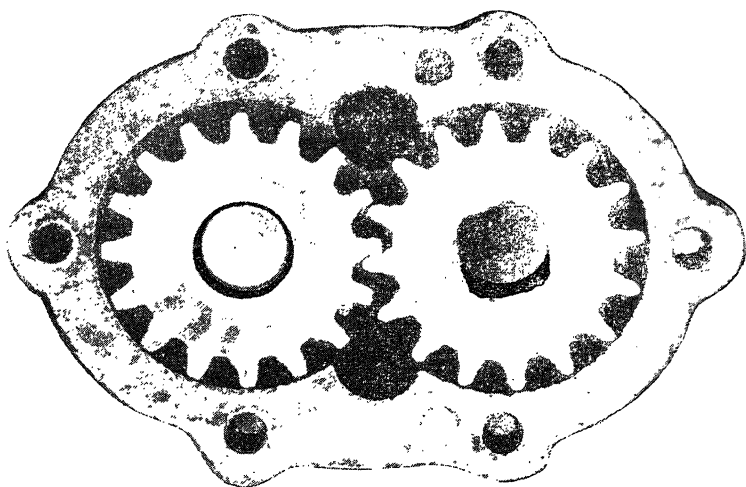

Fig. 27. Photograph of Badly Worn Set of Gears in a Gear Pump
**Worn Oil-Pump Gears.** One cause of loss in oil pressure is worn pump gears, Fig. 27. This condition permits the oil to pass back through the gear teeth and out of the pump through the holes in which the gear shafts are located and consequently the pressure does not build up because little oil is being circulated through the system.